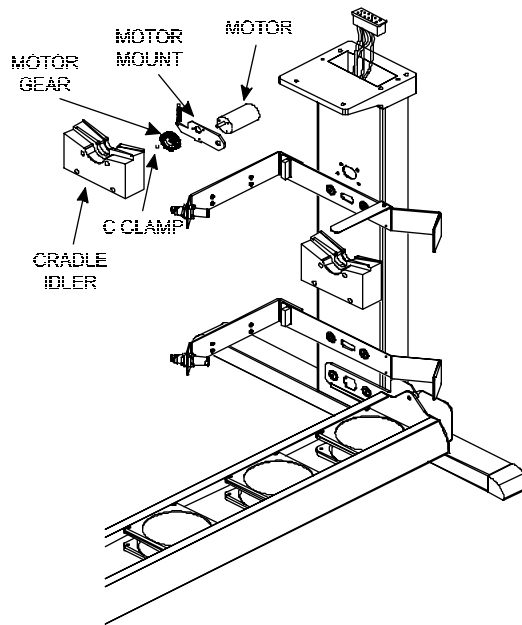

Figure 5-28. Media Take-Up and Feed Motor Removal.
2. Remove the four screws holding the Cradle Idler to the leg assembly. See Figure 5-28.